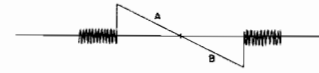

Fig. 4
- (1) Connect the DC balance meter to TP9 and apply an input signal such that the output becomes approximately 30mV. And by the core of the T102, adjust it so that the gain will be max.
- (2) Adjust the primary (lower) and secondary (upper) cores of T101 to correct the waveform to that shown in Fig. 4.